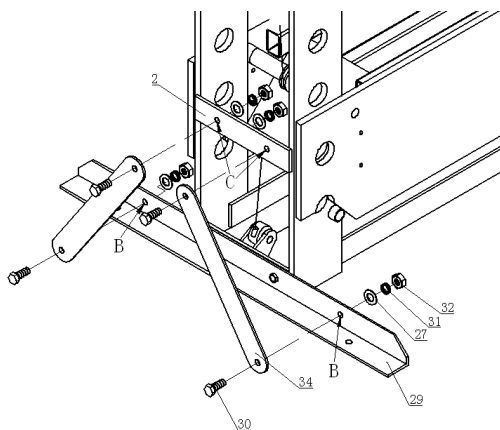

Fig. 2
11.1.2 Fix the 4pcs supports (34) to the body frame part B and C by using hex bolt M12X30 (30), washer  $\phi$  12 (27), spring washer  $\phi$  12 (31) and hex nut M12 (32). (refer to fig.2)